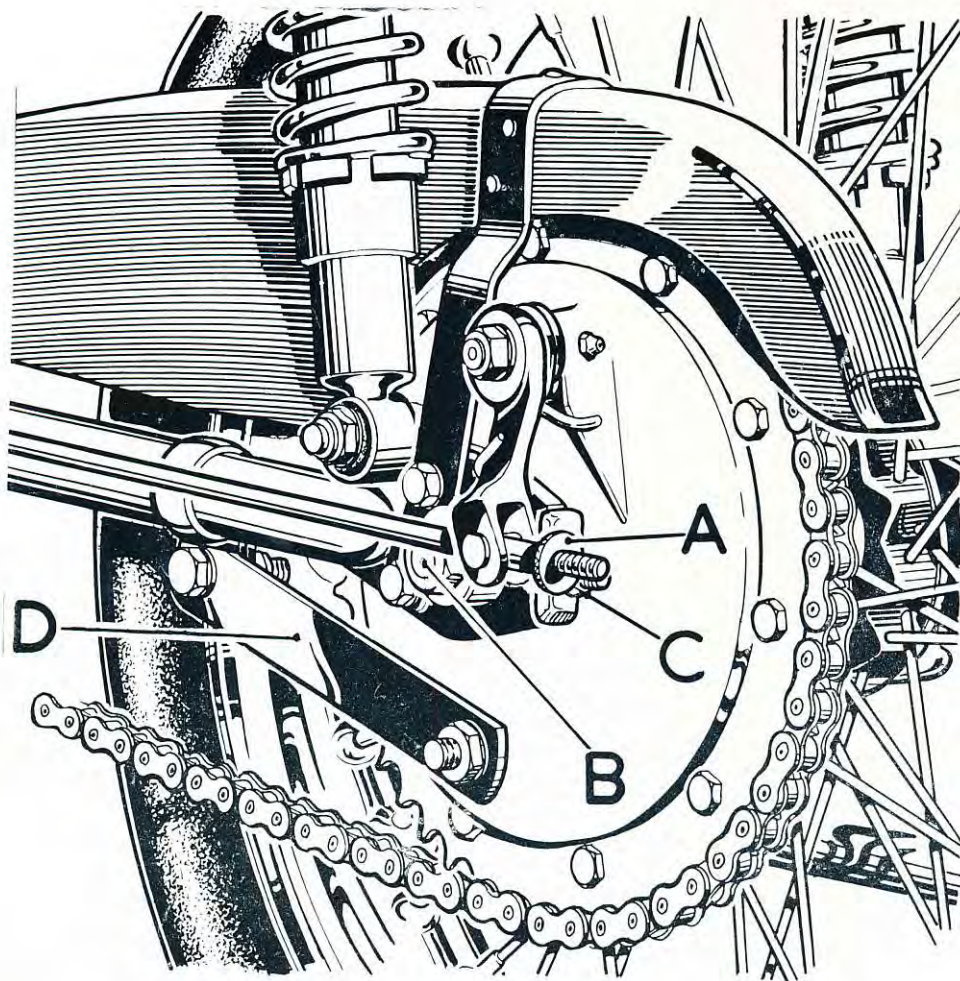

FIG. F5. Rear brake plate assembly.
The brake drum is retained in the rear fork end by the spindle nut (B) and the self-locking nut securing the brake anchor strap (D) see Fig. F5, to the swinging arm lug.
See that the spindle is pressed well into the bearing and replace the cover plate complete with brake shoes etc. Place the assembly into the fork end, and fit the chain adjuster and nut (C), on to the spindle end (see Fig. F5). If the chain tension was correct, there will be no need to make any adjustment now. Do not tighten the spindle nut until the wheel has been replaced, so that the alignment can be made for the complete assembly.